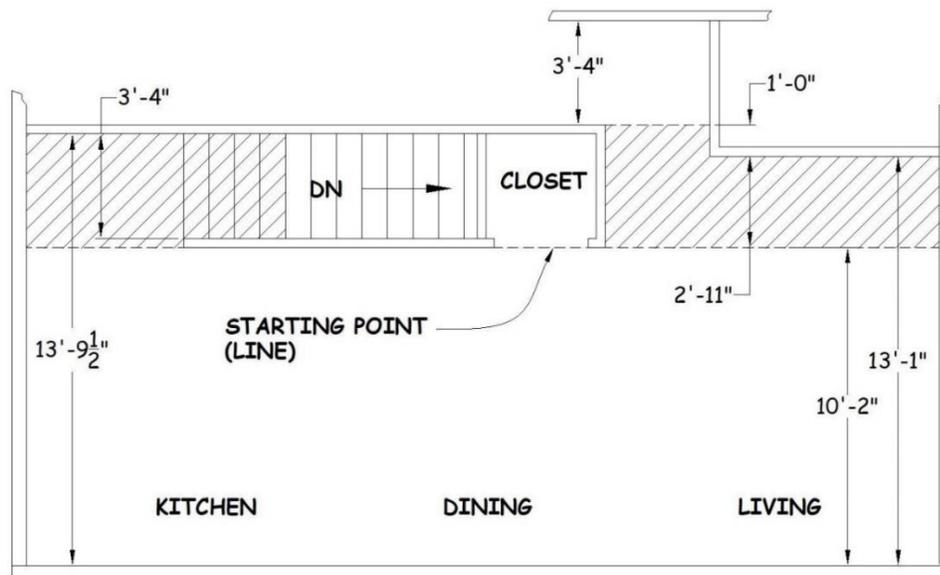

Figure 13-2. Determining the Starting Point Along Interior Common Area Walls.
1. If these rooms have off-set and parallel interior walls, determining the optimum sheetrock widths can be difficult. The challenge is to determine the starting point. The starting point is a line parallel to the exterior wall that defines the end of the interior wall pieces and the beginning of the first full width row of sheetrock. If a starting point has not been pre-determined, follow the instructions below as they relate to the example provided in Figure 13-2 (where the cross-hatching indicates the first row of sheetrock).
3. Examine the plan drawing with added dimensions. Starting with the interior wall furthest from the exterior wall, determine if a full width sheet will work there. (In Figure 13-2, a full width sheet would result in less than a 16" width along the interior stairway and closet wall).
4. If a full width sheet cannot be used, use the plan drawing to evaluate another option, e.g. a 2' piece or a 3' piece. (In Figure 13-2, a 2'-11" piece installed along the interior bedroom wall will provide a good starting point. It satisfies the 16" minimum width along the interior wall and the 12" minimum width along the exterior wall. The width along the exterior wall will be 2'-2", i.e., 10'-2" minus two full width rows.)